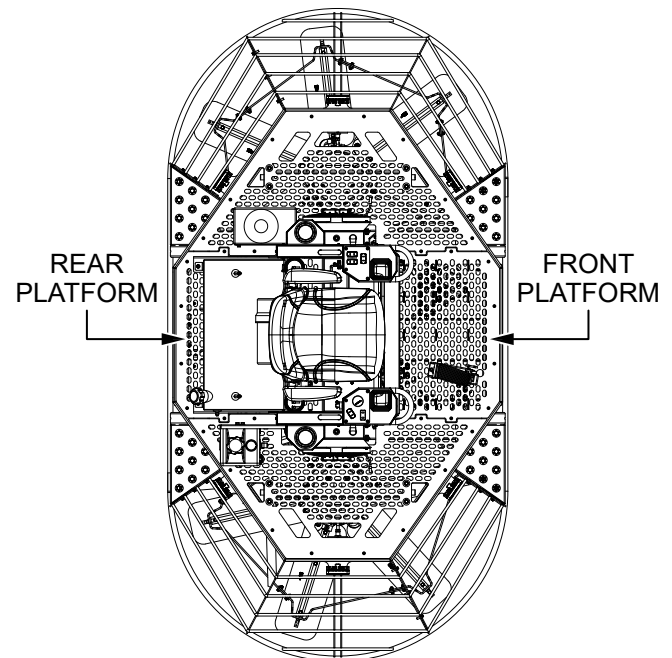

Figure 38. Front And Rear Platforms
1. Remove the **front and rear platforms** (Figure 38).
1. Remove the **front platform** (Figure 38).